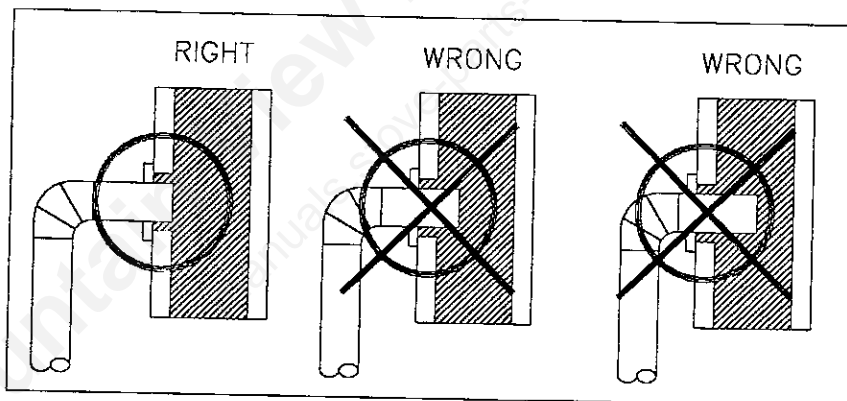

Fig. 8
4. The pipe cannot extend into the chimney flue.(Fig. 8)
7. It is recommended that no more than two (2) 90 degree bends be used in the stove pipe instalation as more than two (2) may decrease the amount of draw and possibly cause smoke spillage.
1. The connector pipe may push into the chimney too far, stopping the draft. (Fig. 8)